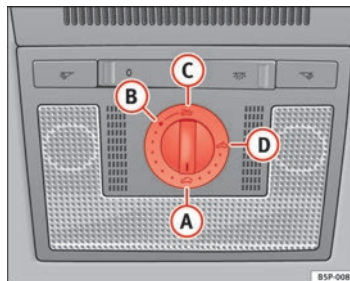

Fig. 68 Roof lining description: sliding/tilting sunroof rotary knob ▶
- Turn the rotary button to position **A** ⇒ Fig. 68 ⇒ .